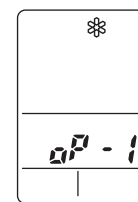

Fig. 59b
- After a few seconds, “*” appears and “oP-1” blinks in the remote controller display area. (Fig. 59b)